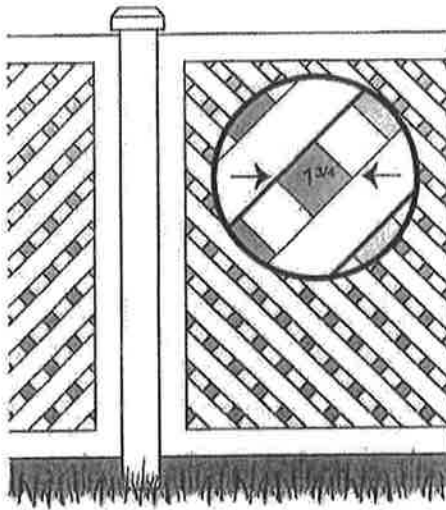

Figure 7
9. Where the barrier is composed of diagonal members, such as a lattice fence, the maximum opening formed by the diagonal members should be no more than 1 $\frac{3}{4}$ inches (figure 7).